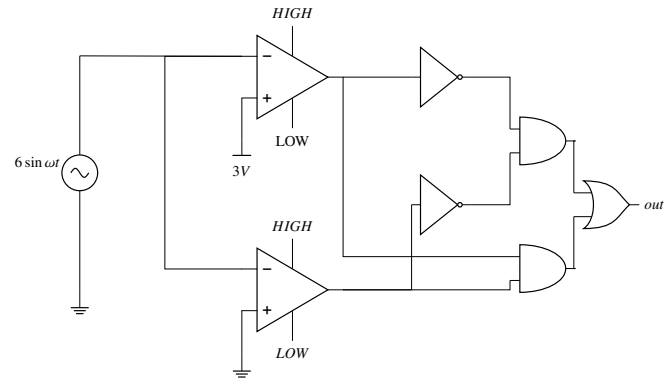

Fig. 3.26: Circuit Diagram
43. In the circuit shown below in Fig. 3.26, assume that